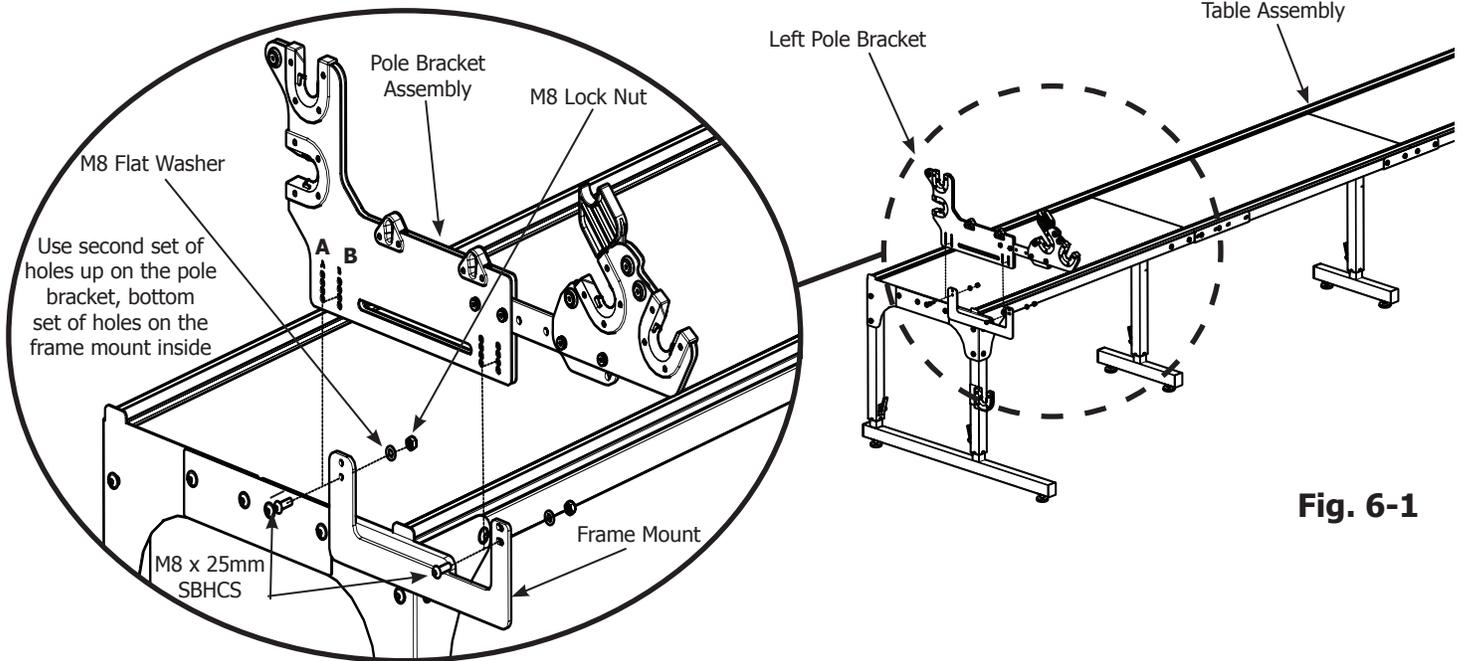

Fig. 6-1
**6-2:** Slide the plugged-hole pole bracket down over the metal frame mount on the left frame side front. The pole bracket should straddle the frame mount. Attach the plugged-hole pole bracket to the frame using two (2) M8 x 25mm SBHCS. Align the screws through the second hole from the bottom of the pole bracket into the bottom hole on the frame mount and insert the screws from the outside to the inside of the frame. On the end of each screw, slide a flat washer followed by a lock nut, as shown in Fig. 6-1.